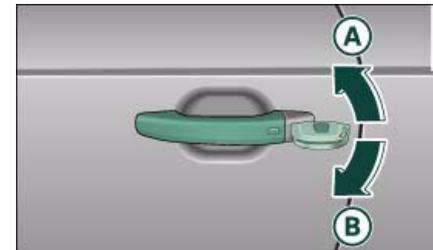

Fig. 40 Lock on driver's door
- Turn the key to position  ⇒ fig. 40 to unlock the vehicle. ▶